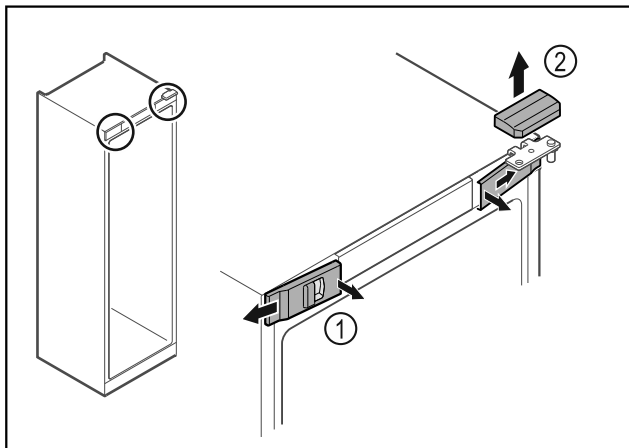

Fig. 15
- ▶ Unlatch the front covers Fig. 15 (1) on the inside and remove them sideways.
- ▶ Lift off the upper cover Fig. 15 (2).